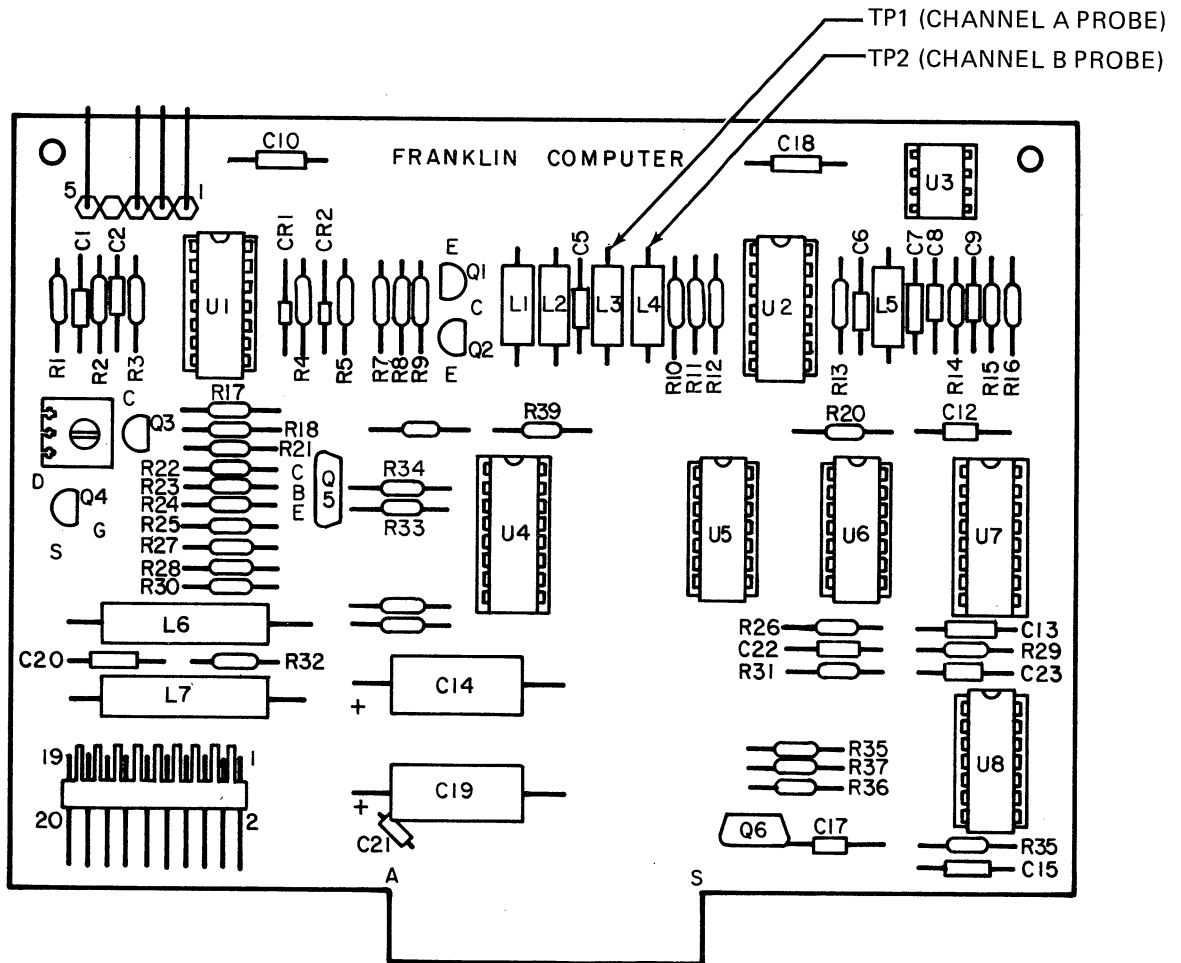

Figure 2. ACE 10 Disk Analog Board.
- A. Connect the oscilloscope probes to TP1 and TP2 as shown in figure 2. Connect a ground from the scope to the - (minus) side of C14. Set the scope controls to measure differential signals (A + B with the B channel inverted). Make certain that both A and B channels are set to the same volts per division.